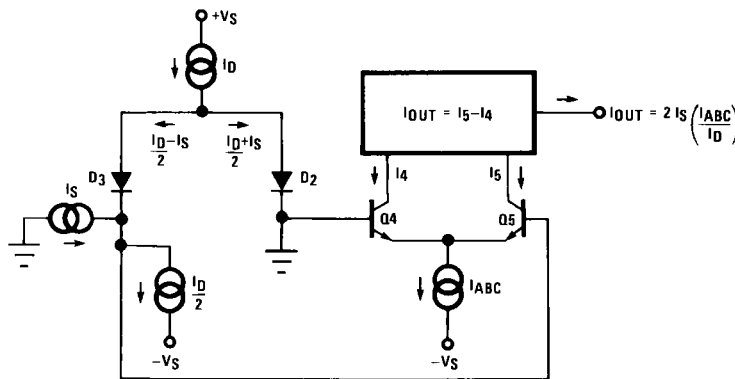
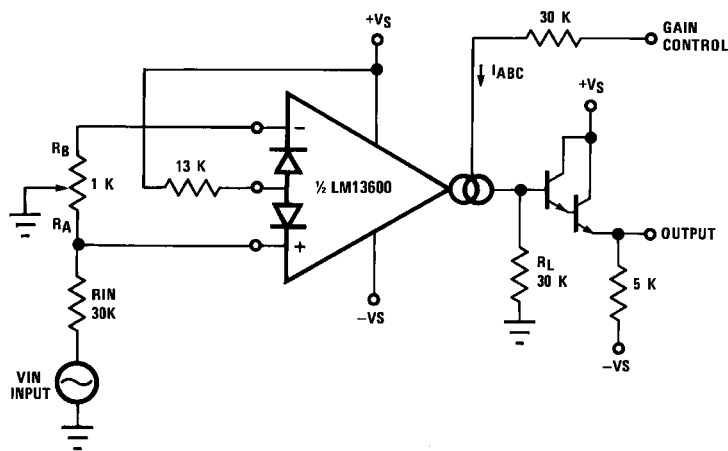
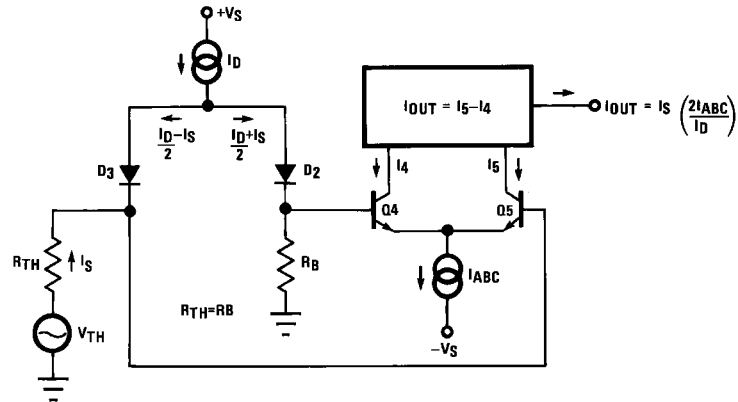
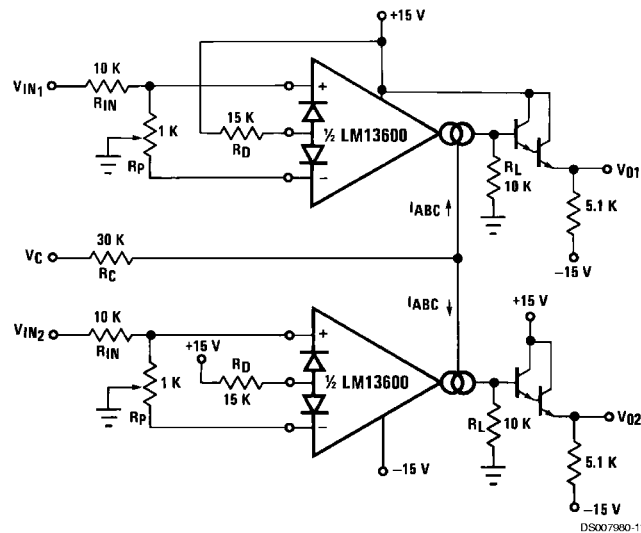

FIGURE 1. Linearizing Diodes
FIGURE 2. Voltage Controlled Amplifier
FIGURE 3. Equivalent VCA Input Circuit
FIGURE 4. Stereo Volume Control
For differential voltages greater than a few millivolts, Equation (3) becomes less valid and the transconductance becomes increasingly nonlinear. Figure 1 demonstrates how the internal diodes can linearize the transfer function of the amplifier. For convenience assume the diodes are biased with current sources and the input signal is in the form of current I_S . Since the sum of I_4 and I_5 is I_{ABC} and the difference is I_{OUT} , currents I_4 and I_5 can be written as follows:
Figure 2 shows how the linearizing diodes can be used in a voltage-controlled amplifier. To understand the input biasing, it is best to consider the 13 k Ω resistor as a current source and use a Thevenin equivalent circuit as shown in Figure 3. This circuit is similar to Figure 1 and operates the same. The potentiometer in Figure 2 is adjusted to minimize the effects of the control signal at the output.
For optimum signal-to-noise performance, I_{ABC} should be as large as possible as shown by the Output Voltage vs. Amplifier Bias Current graph. Larger amplitudes of input signal also improve the S/N ratio. The linearizing diodes help here by allowing larger input signals for the same output distortion as shown by the Distortion vs. Differential Input Voltage graph. S/N may be optimized by adjusting the magnitude of the input signal via R_{IN} (Figure 2) until the output distortion is below some desired level. The output voltage swing can then be set at any level by selecting R_L .
The circuit of *Figure 4* uses the excellent matching of the two LM13600 amplifiers to provide a Stereo Volume Control with a typical channel-to-channel gain tracking of 0.3 dB. R_P is provided to minimize the output offset voltage and may be replaced with two 510 Ω resistors in AC-coupled applications. For the component values given, amplifier gain is derived for *Figure 2* as being:
Noting that the gain of the LM13600 amplifier of Figure 3 may be controlled by varying the linearizing diode current I_D as well as by varying I_{ABC} , Figure 7 shows an AGC Amplifier using this approach. As V_O reaches a high enough amplitude ($3 V_{BE}$) to turn on the Darlington transistors and the linearizing diodes, the increase in I_D reduces the amplifier gain so as to hold V_O at that level.